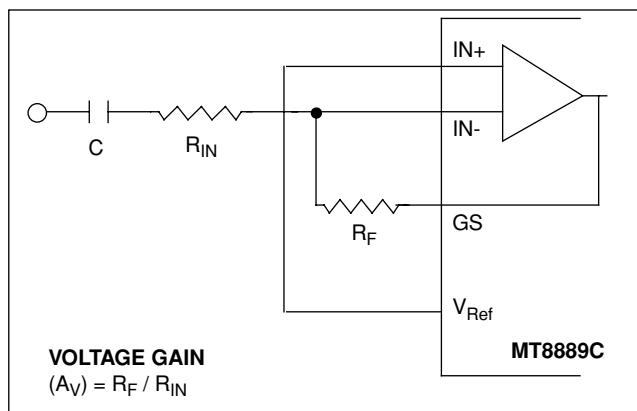

Figure 3 - Single-Ended Input Configuration
The input arrangement of the MT8889C provides a differential-input operational amplifier as well as a bias source (V_{Ref}), which is used to bias the inputs at $V_{DD}/2$. Provision is made for connection of a feedback resistor to the op-amp output (GS) for gain adjustment. In a single-ended configuration, the input pins are connected as shown in Figure 3.